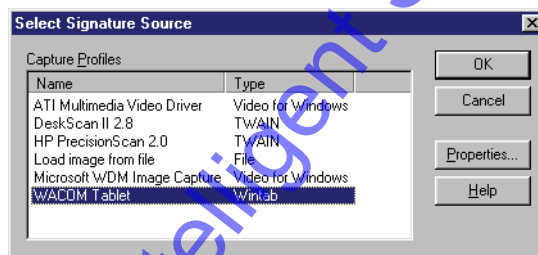

Figure 9-27: Select Signature Source
1. To acquire a digital signature for this user, click on the  button. The Select Signature Source window appears (see Figure 9-27).
- Once all these values are set, click on the button followed by the button. The Select Signature Source window re-appears (see Figure 9-27 on page 24 of this section).